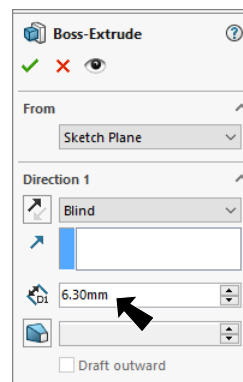

Fig. 5
Step 11. In the Boss-Extrude Property Manager set: under Direction 1, **Fig. 5**